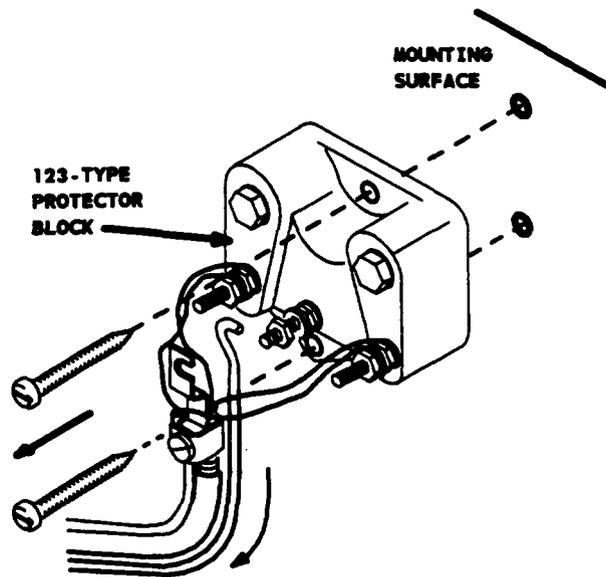

Figure 13. Removing Protector Block from Mounting Surface
- (1) Remove the outside cover of the protector. Remove all of the ground connections and bend the wires, coming out of the local provided ground connector, away from the wall. Then, remove the screws mounting the 123-type protector block onto the wall (Figure 13).